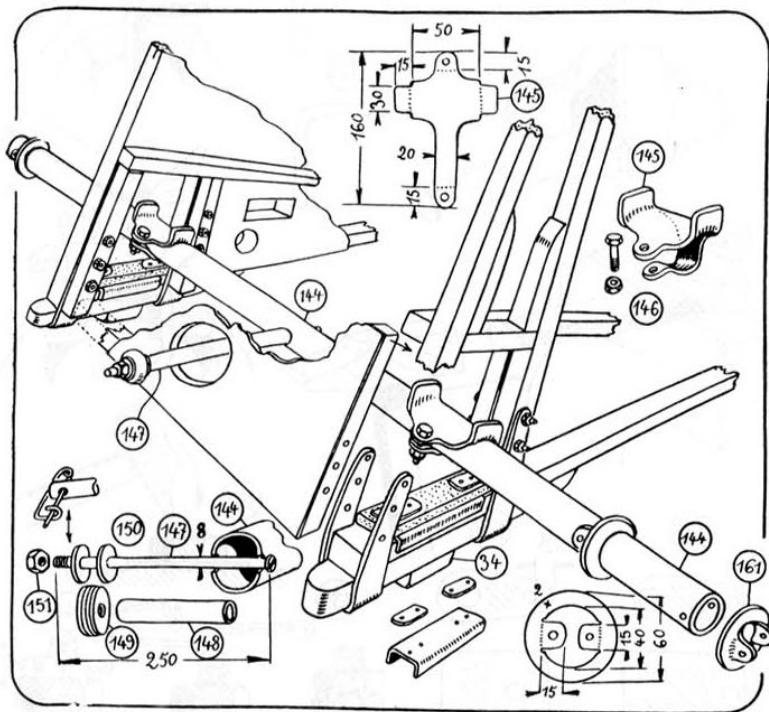

Figure 3.21: The axle and its placement
The axle is a 36×40 tube (144) (fig. 3.21) 1200mm long, filled with another reinforcing tube, 31×35 800mm long. This is 4mm thick in total, and weighs 4kg 300g. It is heavy — very heavy. But it's solid! The axle won't bend. You won't have to worry about beating your landing gear into a curve rolling over the clods. Do not repeat the author's mistakes — *only one tube is not enough*.
³I am unable to find this reference number on any drawing, but ⑯ is in Fig. 3.21, and includes layout details for the washer collar in question.